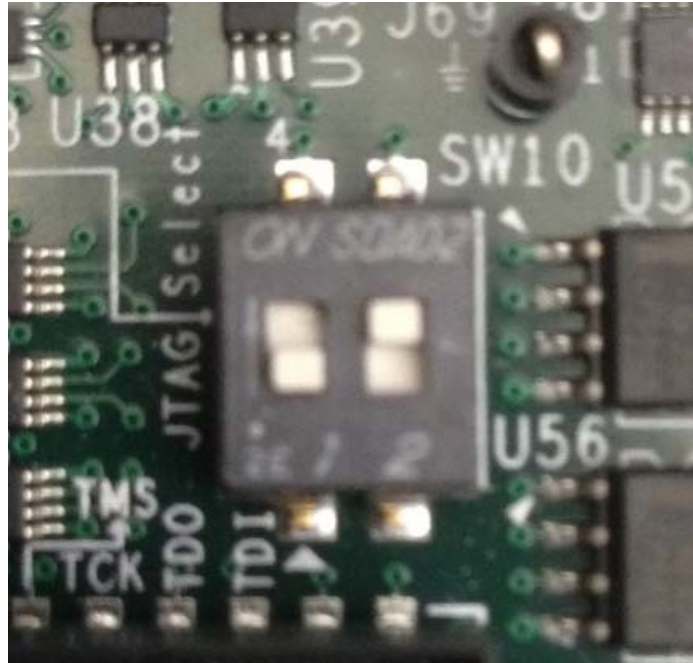

Figure 6-3: SW4 on a ZC706 Set to use Digilent USB JTAG
2. Connect a Digilent cable between the Windows host machine and the target board with the following SW10 switch settings, as shown in Figure 6-3, page 69.